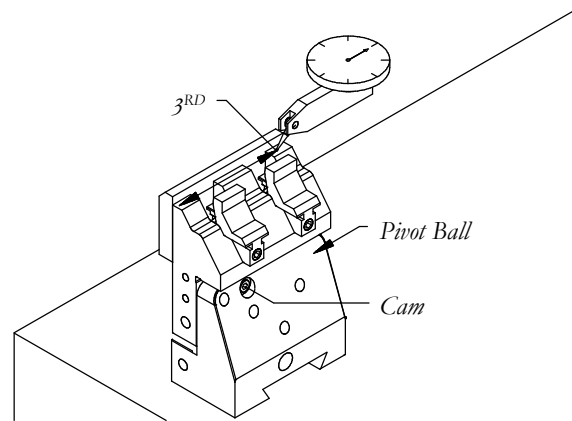

Figure 9
STEP 11. Place the vertical vise/TD01 on the surface plate as shown in Fig. 9.